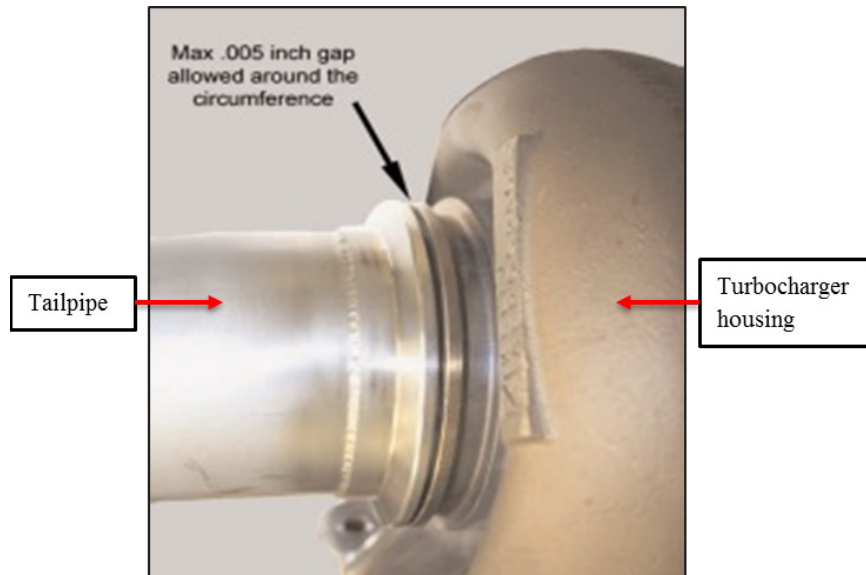

Figure 9
Inspect the turbocharger exhaust exit flange and the exhaust tailpipe flange interfaces for any un-flat (0.005 in. or greater) or wavy condition, corrosion, pitting, scaling or deposits (not easily removed) and correct per the manufacturer's recommendations. Refer to Figure 9.
- c. Prior to installation, ensure the tailpipe and turbocharger exhaust exit flange are free from cracks, warps, gouges, nicks, grease dirt or deposits, including all weld areas. Refer to Figures 9 & 17.
- f. Ensure alignment of tailpipe flange and turbo exhaust exit flange with no gaps (maximum 0.005 in.), prior to coupling/clamp installation. Refer to Figure 9 & 10.
If the coupling/clamp is removed, inspect the turbocharger exit flange and the tailpipe flange interfaces for any un-flat (0.005 in. or greater) or wavy condition, corrosion or deposits (not easily removed) and correct per the manufacturer's recommendations. Refer to Figure 9.